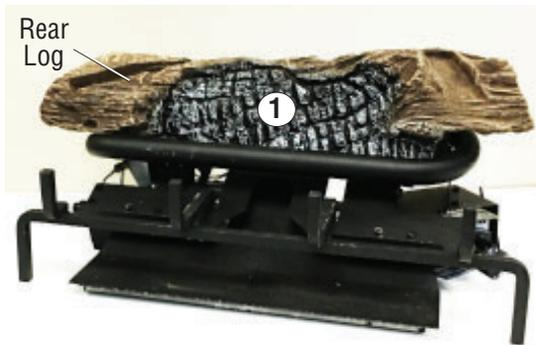

Figure 41 - Installing Log #1
1. Place the rear log (#1) on base assembly as shown in **Figure 41**. Log will fit over right end of burner and rest in middle of U-burner (see **Figure 41**).